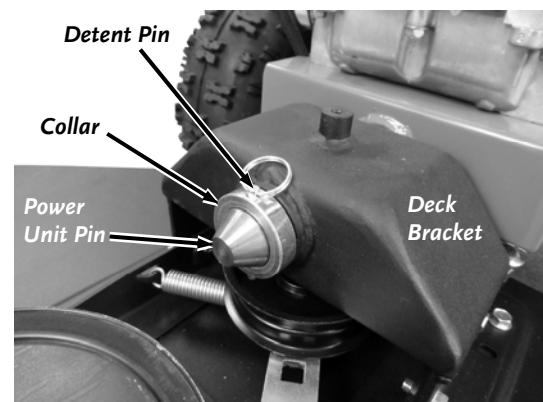

Figure 4
2. Slide the Power Unit Pin into the Deck Bracket and install the Collar and Detent Pin (**Figure 4**).